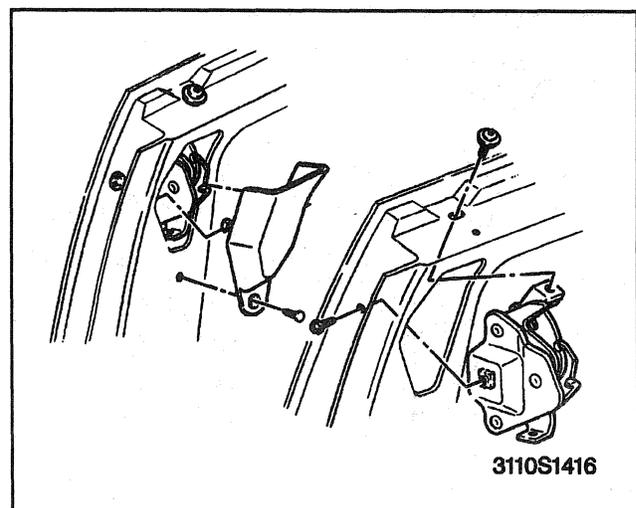

Figure 95—Upper Latch and Bumper
6. Latch bolts (Figure 95).
7. Latch from door (Figure 95).
1. Latch to door (Figure 95).
2. Latch bolts (Figure 95).